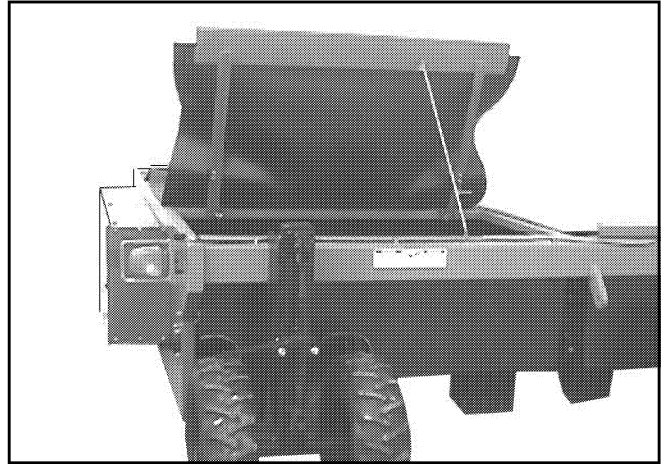

Figure 24 Open Covers
1. Open all access doors and canvas covers (see Figure 24). Be sure the prop rods are in place and secured with pins.